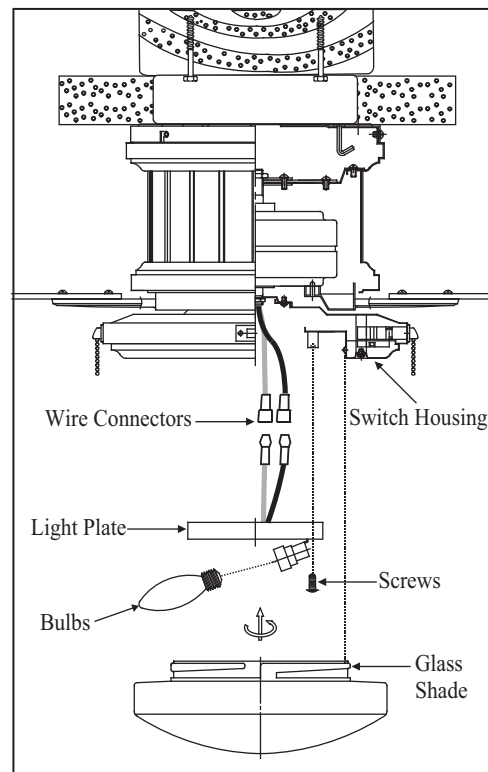

Figure 12
2. Carefully push all wires back into the switch housing, then install the light plate onto the switch housing with 3 screws provided. Be sure to tighten all screws. (Fig. 12)
3. Install 3 x 40W candelabra bulbs (included). (Fig. 12)
4. Raise glass shade up against the light kit and secure it to fan by turning glass counterclockwise until snug. DO NOT OVERTIGHTEN. (Fig. 12)